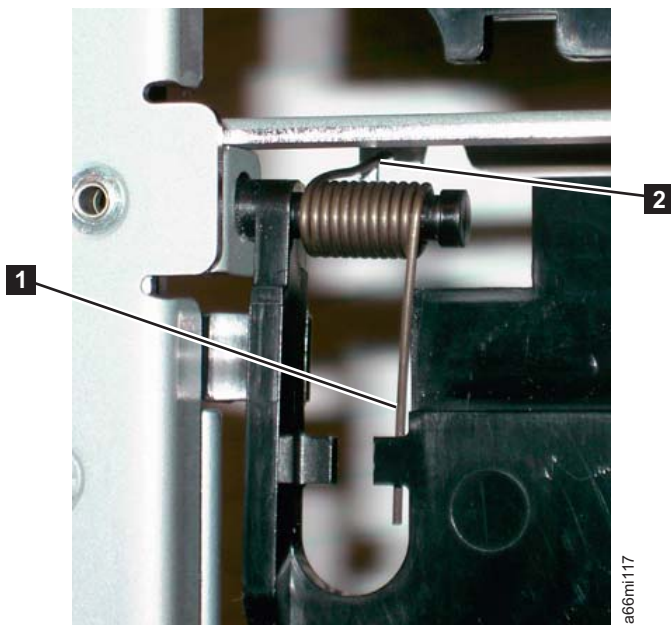

Figure 8-29. I/O Safety Flap Front Spring Wire
2. Unhook the front spring wire (**1** in Figure 8-29) from the tab on the I/O flap.
3. Unhook the rear spring wire (**2** in Figure 8-29 on page 8-32) from the notch in the frame.